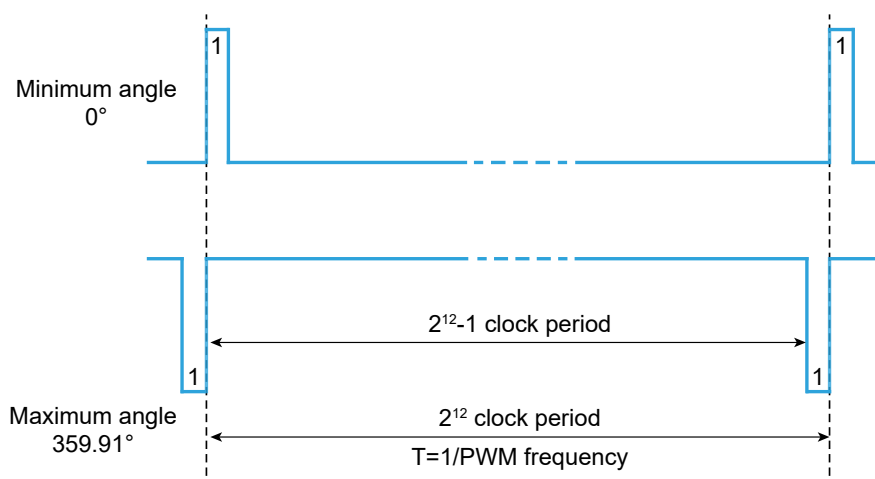

Figure 11. Waveform of PWM mode output signal
TMR3105AP supports pulse width modulation (PWM) output. The duty cycle of PWM is a logic signal which proportional to the magnetic field angle. The duty cycle is limited by the minimum value (1/4096 of the period) and the maximum value (4095/4096 of the period), so the duty cycle varies from 1/4096 to 4095/4096 with the resolution of 12-bits. Figure 11 shows one period of the PWM signal, and the period (T) is $1/F_{PWM}$.